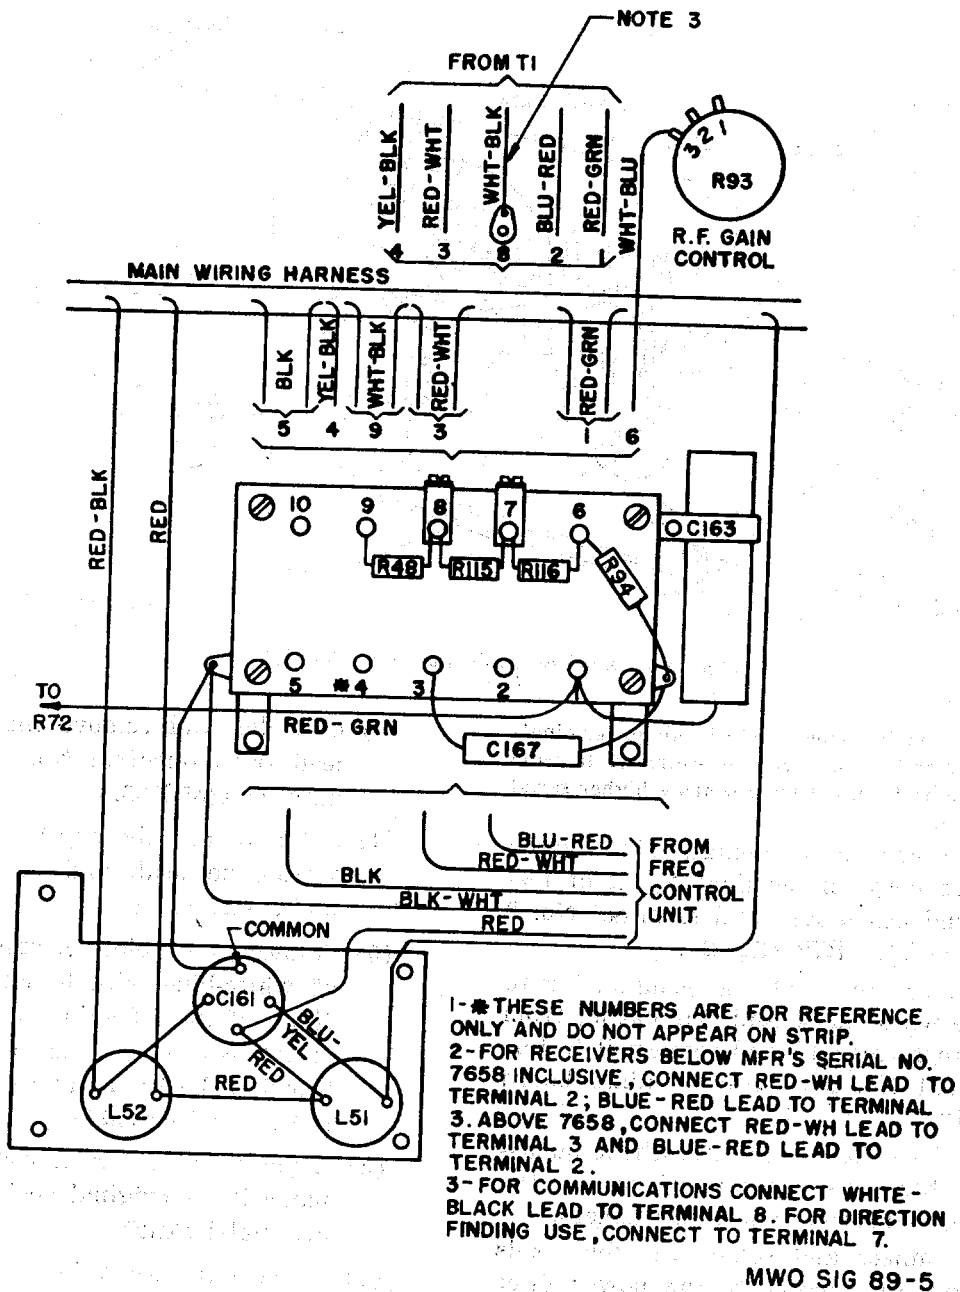

Figure 5. Lead connections to new terminal board E13.
(7) Unsolder and remove all the leads from the old terminal strip E13.
(8) Remove the nuts and lock washers from the two screws that hold the old terminal strip E13 to the chassis, and remove the terminal strip.
(9) Mount the new terminal board E13 in the position formerly held by the old terminal strip, using the original screws, lock washers, and nuts.
(10) Connect and solder the wires removed from the old terminal strip to the new terminal board in accordance with figure 5.
- (1) Loosen the two Allen setscrews that hold the knob to the r-f gain control (R93) shaft, and remove the knob.
- (2) Remove the locknut that holds the r-f gain control to the front panel, and pull the r-f gain control in and up sufficiently to permit access to the terminals.
- (3) Unsolder and remove the white-blue lead from terminal No. 3 of the r-f gain control R39.
- (4) Cut and tape the exposed end of the white-blue lead, and tape it to the main wire cable.
- (5) Connect and solder a suitable length of white-blue wire between terminal No. 3 of the r-f gain control and terminal No. 6 of the new terminal board E13 (fig. 5), and tape this lead to the existing cable.
- (6) Replace the r-f gain control on the panel in its original position; use the original locknut.
- (7) Replace the knob in its original position on the shaft of the r-f gain control; use the original Allen setscrews.